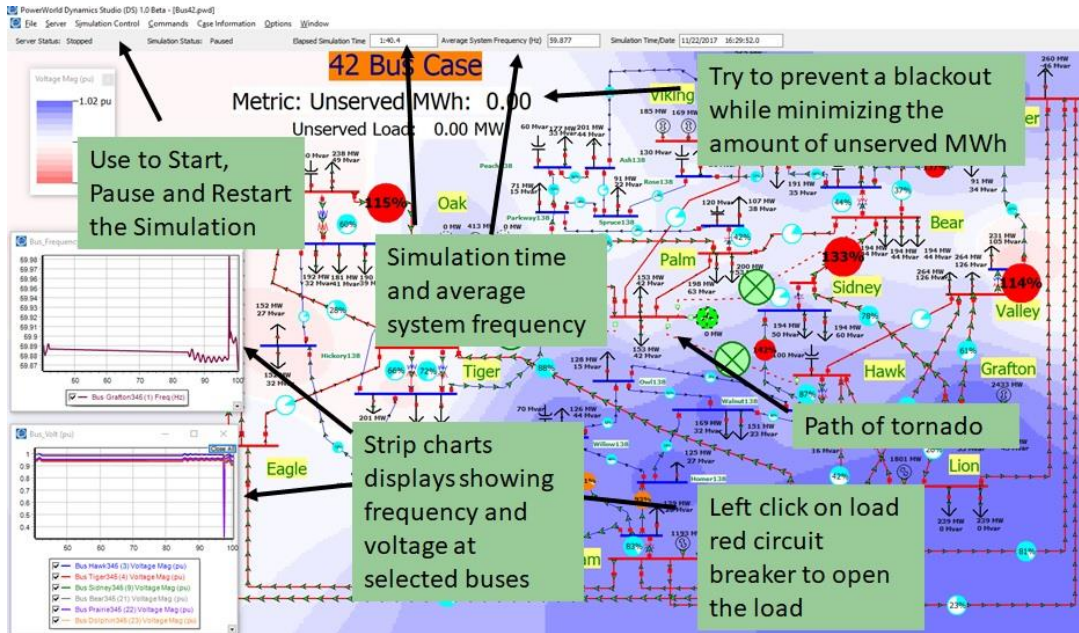

Figure 4: 42 Bus Tornado Scenario
1. Start PowerWorld DS, and open the Bus42\_Tornado case. This runs a real-time simulation on a 42 bus, 345 and 138 kV case in which a tornado is assumed to move through the center of the system. Starting at ten seconds of simulation time, the tornado rapidly outages three 345 kV lines, and also takes out the supply to a 500 MW wind farm. Your job is to prevent the system from experiencing a blackout by shedding the least amount of load. The oneline for this system is shown in Figure 4. If an initial contour is not shown, right-click on a blank portion of the oneline and select **Contouring**. This displays the Contour Options dialog. Just click **OK** to accept the defaults and display the contour.
2. Initially just watch the simulation. To do this, select **Simulation Control, Start**. At ten seconds in you’ll see a red flash due to the low voltages caused by the first tornado induced transmission line fault. The power system should blackout at a simulation time of about 90 seconds (with the simulation time shown at the top as seen in Figure 4). The simulation models a simple protection system in which overloaded transmission lines are eventually opened using an inverse time relationship (i.e., so more heavily loaded lines trip quicker) and generators can trip because of various other protection systems. The time variation in selected bus voltage magnitudes and frequencies is shown in two strip chart displays as seen in Figure 4.